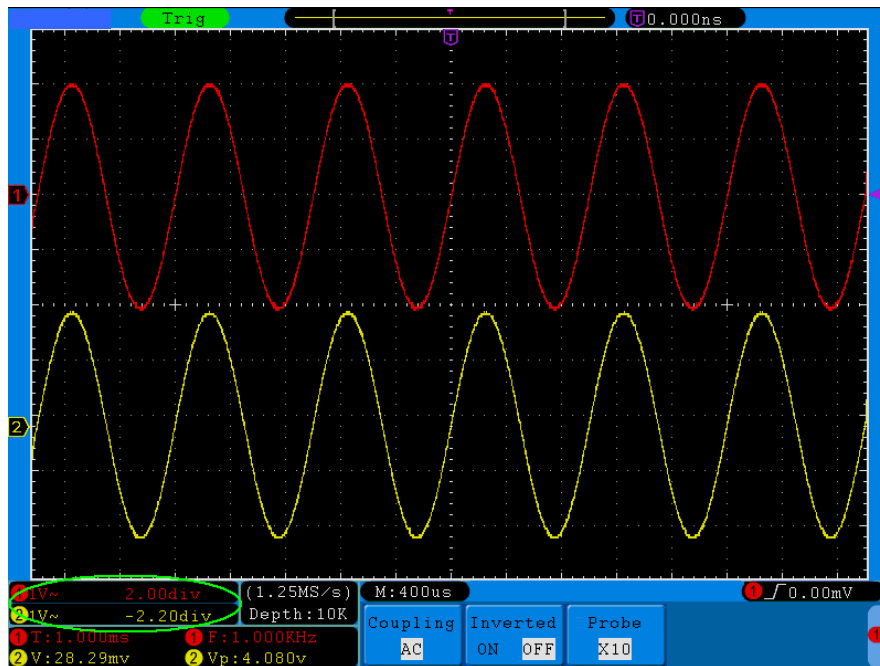

Figure 5-13 Information about Vertical Position
- When the vertical position of the channel waveform is adjusted, the changed value is displayed at the left bottom corner of the screen (see *Figure 5-13*).